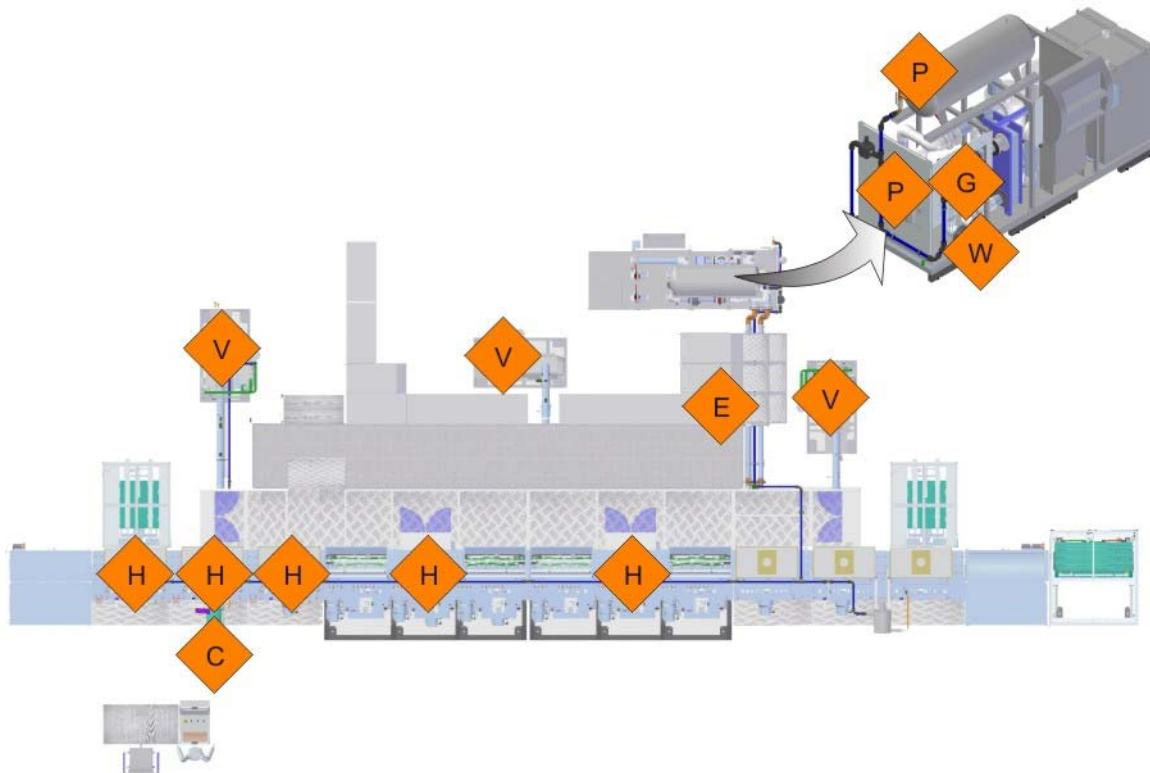

Fig. 7-2 Lockout locations (view from above)
- 6 Attach a tag to every lockout location. This tag has to warn other persons that the component in question may not be switched on until the tag is removed by the authorized person. Tags must be in a language that everyone understands. The tag must provide the following information (see Fig. 7-2, 170):